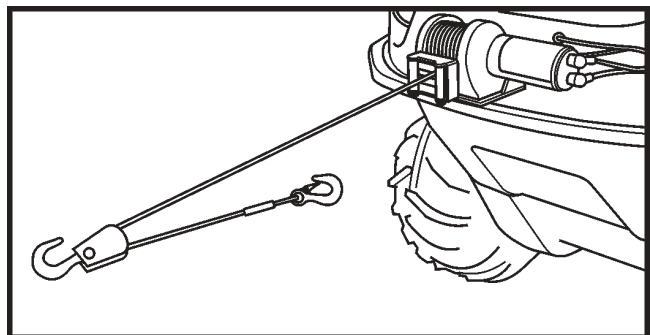

Figure 11-20 Double Line
1. The X2 winch is rated at 3,000 pounds (single-line) capacity. **DO NOT OVERLOAD. DO NOT ATTEMPT PROLONGED PULLS AT HEAVY LOADS. DO NOT MAINTAIN POWER TO THE WINCH IF THE MOTOR STALLS.** Overloads can damage the winch and/or the wire rope and create unsafe operating conditions. For heavy loads, we recommend the use of the optional pulley block and hook assembly (Superwinch Part No. 1503) to double line the wire rope (Figure 11-20). This reduces the load on the winch and the strain on the wire rope by approximately 50%.